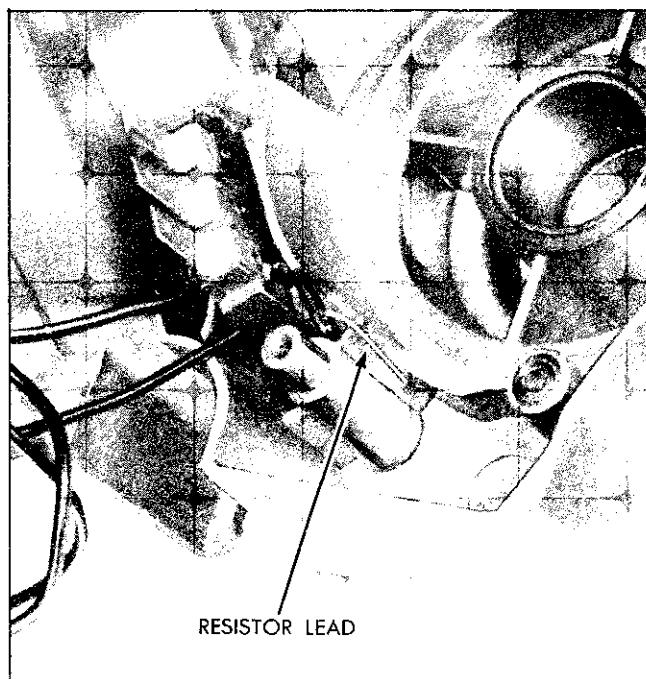

Fig. 12-35 Position of Resistor Lead—Pontiac
4. Slide terminal board into wiper housing, being careful to position terminal board resistor lead as shown in (Fig. 12-35).